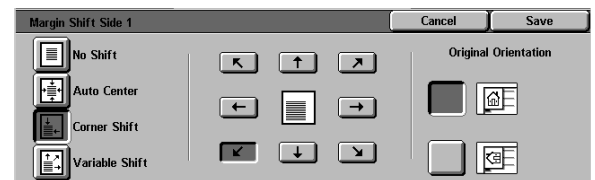

Figure 23: Margin Shift screen with Corner Shift selected
- 3 Touch the **Corner Shift** button to display the Corner Shift detail screen, as illustrated in Figure 23.